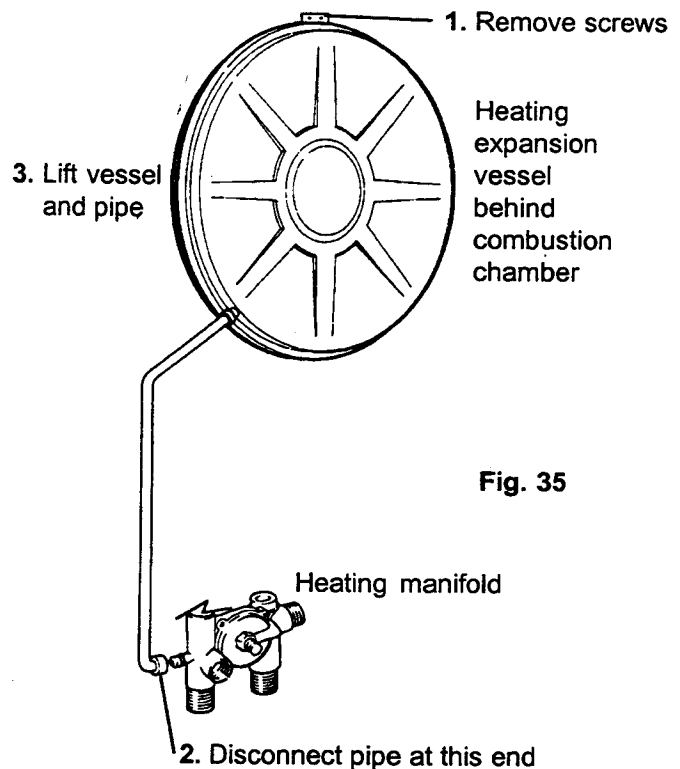

Fig. 35
- 8.16.9 Remove 2 screws securing vessel at top. Disconnect expansion pipe at heating manifold, lift vessel & pipe out of appliance.(fig. 35)